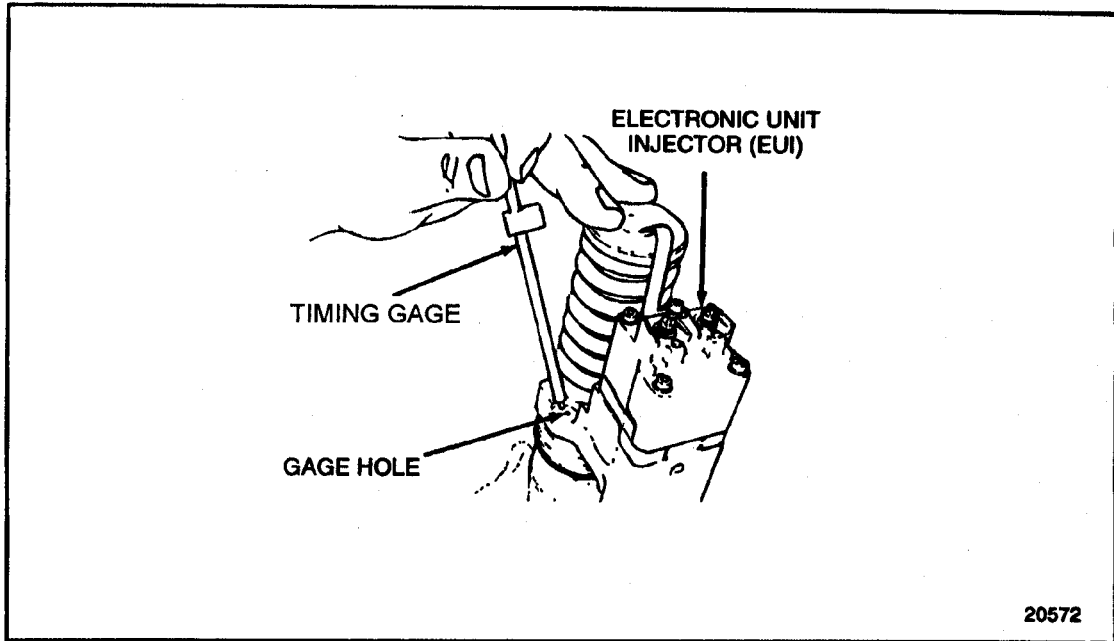

Figure 16-3 Timing Gauge
The injector height is adjusted using the injector height gage, J 39697 (DDEC III/IV) or J 35637-A (DDEC II and I). On engines equipped with a Jake Brake®, move the handle on the injector height gage to the alternate position, 90 degrees to the shank. A height gage pilot hole is provided in the fuel injector body on the machined surface contacted by the injector clamp near the solenoid; see Figure 16-3.
- [a] For DDEC III/IV engines, place the small end of the height gage, J 39697, in the hole provided in the fuel injector body, with the flat of the gage toward the fuel injector plunger; see Figure 16-3 and proceed to step 3[c].